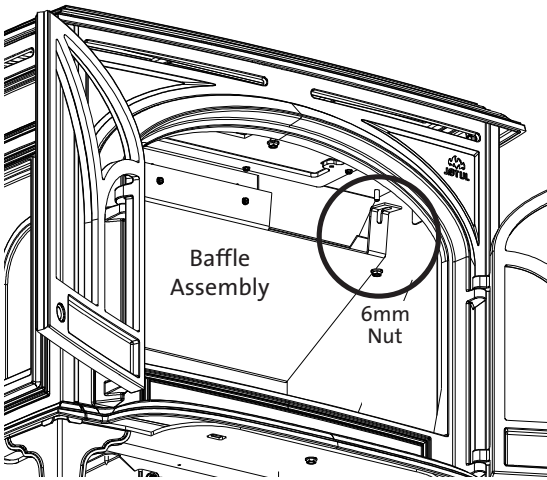

Figure 31.
9. Baffle Conversion - Propane conversion only: Remove two, 6 mm nuts to detach the steel baffle assembly from the firebox. See figs. 31 - 32.